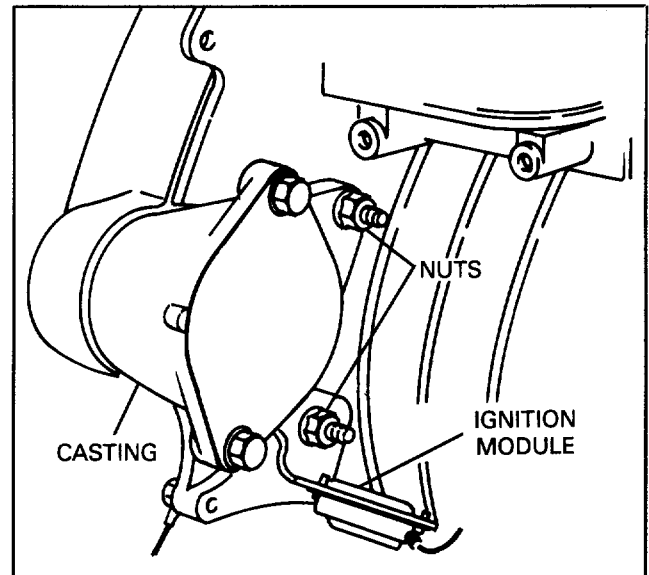

Figure 2
2. Some models have an additional casting installed in the starter mount location which must be removed before the starter can be installed (Fig. 2). Remove two M8 flange nuts and ignition module bracket, slide casting off and discard it. Disassemble ignition module from mount bracket, set module aside and discard bracket (Fig. 2).